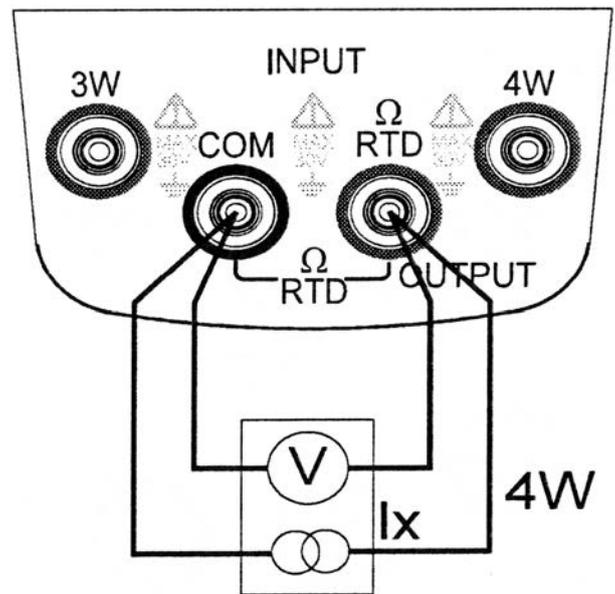

Figure 5-1
- 3. Insert one end of the test lead into the OUTPUT terminal of the instrument and connect the other end to the input terminal of the device under test. See Figure 5-1. (The special test lead provided by the Instrument can be connected as 4-wired system output according to User's request).